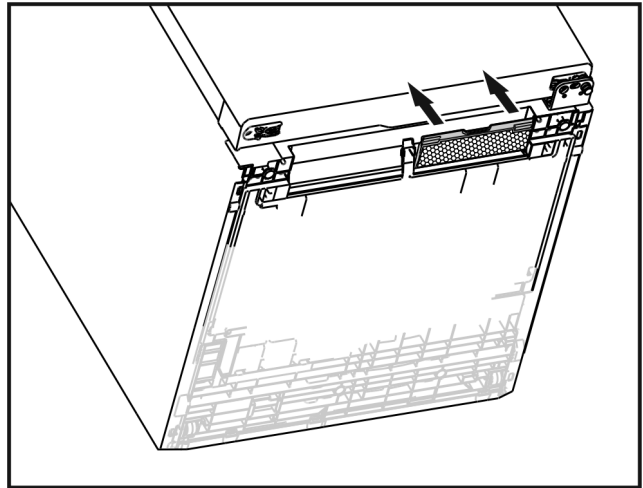

Fig. 5
- ▶ Press the mosquito screen on both sides of the appliance until it clicks into place (see Fig. 5).